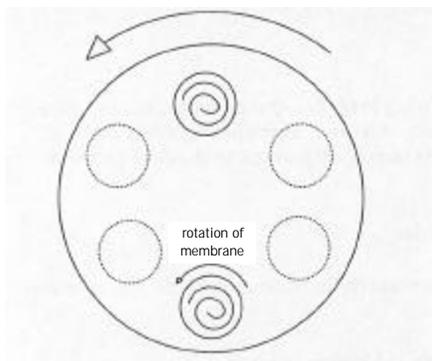

Fig 4. Rotation of rotisserie
- 5.2.3 Place the hybridization bottle(s) into the rotisserie (as detailed in section 4.3) add counterbalance bottles if necessary. Place the rotisserie into the oven so that the bottles are rotating in the same direction as the membrane is rolled, see Figure 4 overleaf.